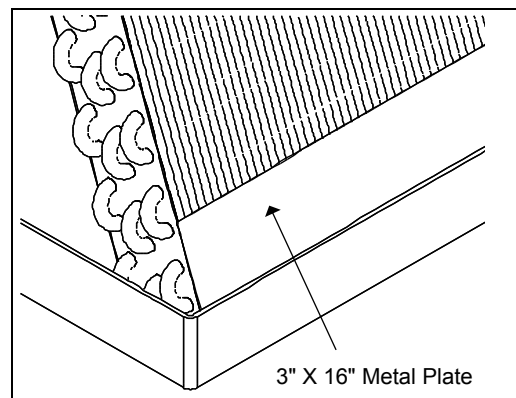

Fig.7. Metal Plate location for a Downflow/Counterflow Application
To set up a multi-position (CE) and or upflow/downflow (CC) coils for downflow application, install a 3" wide by 16" long galvanized metal plates on the outside of the coil, against the fins as shown in FIG.7.